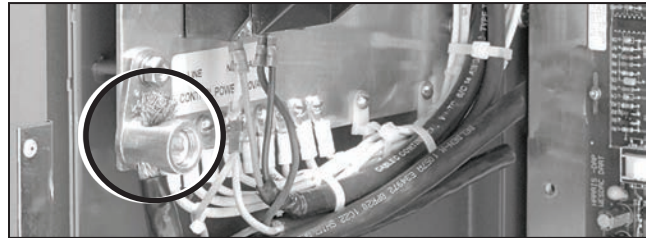

Figure 126. Copper lug and fuse block.
- (g) Connect the heavy shielded cable to the copper lug on the low-voltage enclosure grounding plate. See Figure 126.
STEP 5. Connect the line and neutral to the fuse block. See label under the fuse block. See Figure 126.